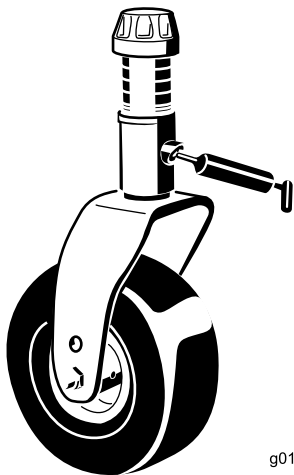

Figure 14
- Castor fork shaft bushings (4) (Figure 14).